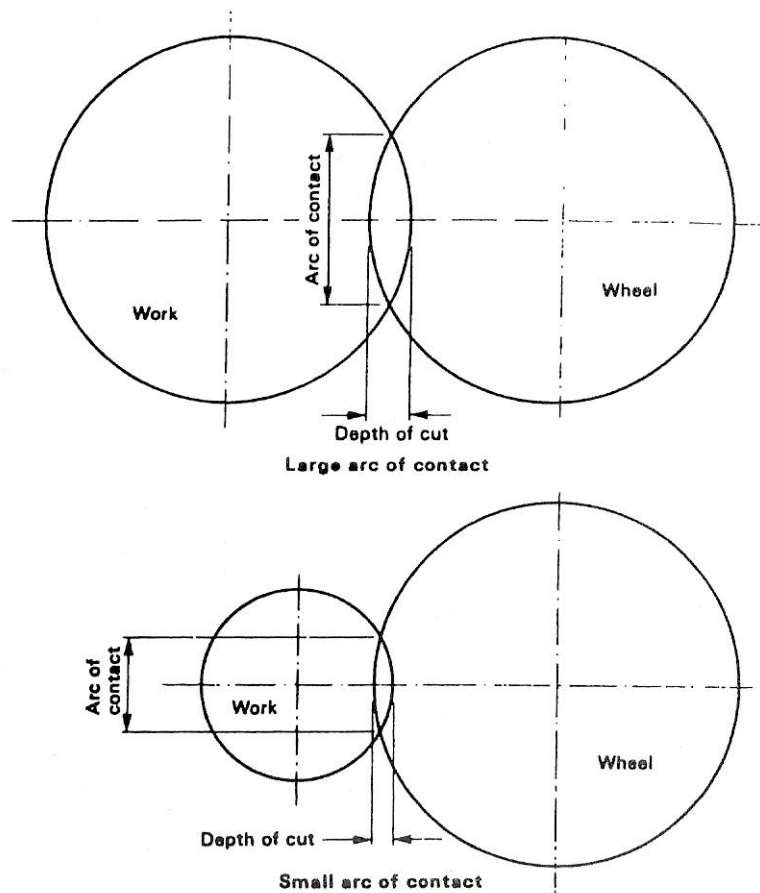

Figure 1 - Arc of Contact
- (a) Figure 1 shows what is meant by 'arc of contact'.